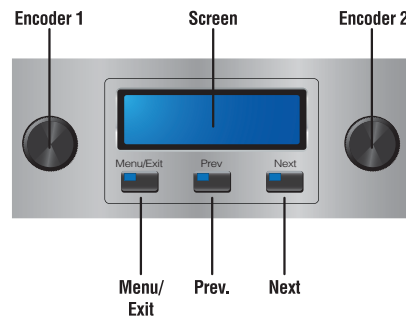

Figure 2.12 The LCD Control Screen
1. Be sure that no cables are connected to the amplifier. Turn on the front-panel power switch. The LCD Control Screen will light up (Figure 2.12).